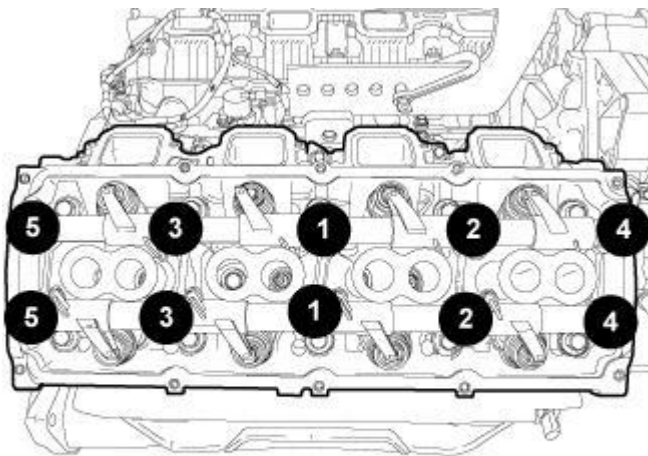

Fig. 96: Rocker Shafts Retaining Bolt Removal & Tightening Sequence
6. Using the sequence shown in **Fig. 96**, loosen the rocker shafts retaining bolts.